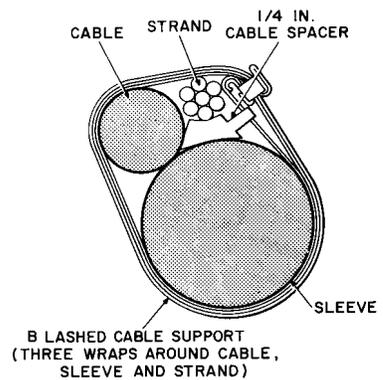

Fig. 12—Supporting Additional Cable at a Sleeve
5.02 At the sleeve place a 1/4-inch cable spacer on the sleeve and position the cable along the side of the cable spacer. Install the B lashed cable support as shown in Fig. 12.